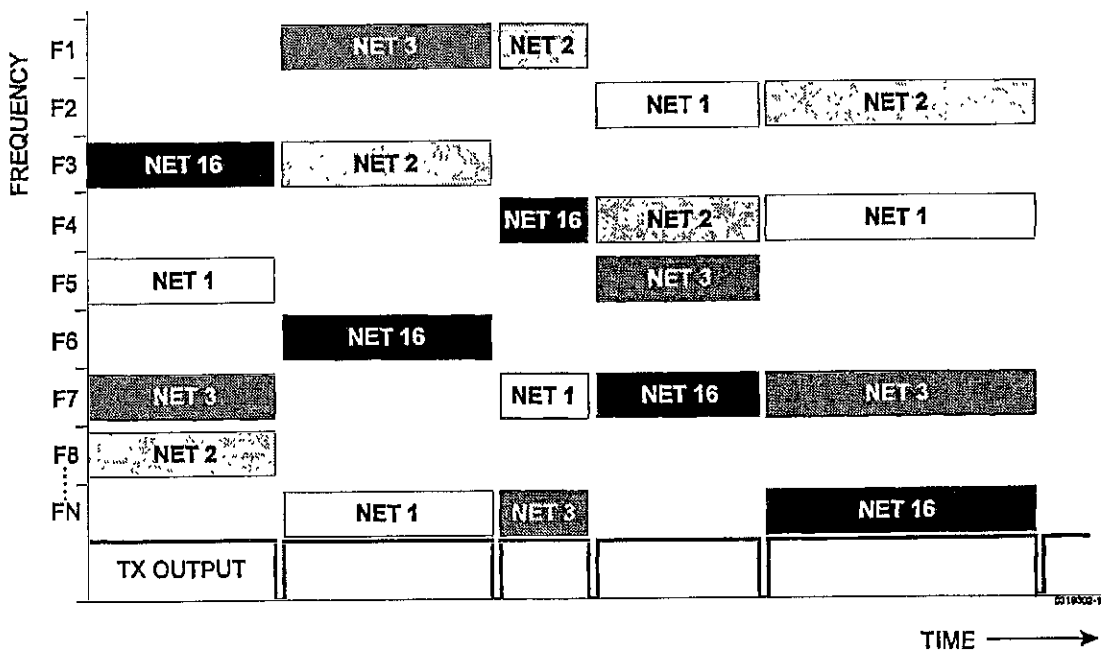

Fig 3 Operation on multiple HAVE QUICK communication channels (net numbers)
18.1 Net number. The group of frequencies to be used (hopset) and the entry point within the hopset are identified by the net number. By using different net numbers, two or more AJ communication channels can be set up without risk of cross-channel interference, as shown in Fig 3.